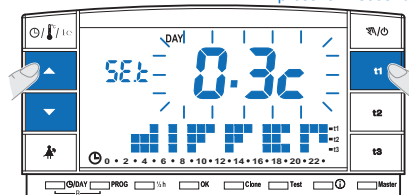

fig. 36
- Keep **t1** pressed until the existing differential value blinks on the display (example in fig. 36 - factory setting **0.3°C**).
- Modify the value (from 0.2 to 0.7) using the keys **▲▼** (example in fig. 36).